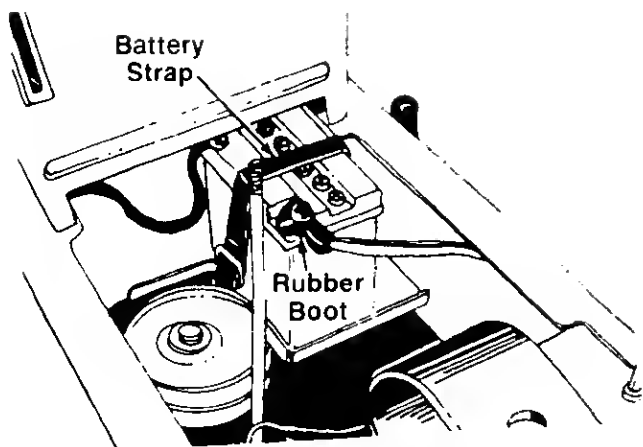

FIGURE 9.
9. Slide the battery forward into position as shown in figure 9. Secure in place with the battery strap, stretching strap over the battery and hooking into hole in the frame.
10. Slide rubber boot over the positive terminal. See figure 9.